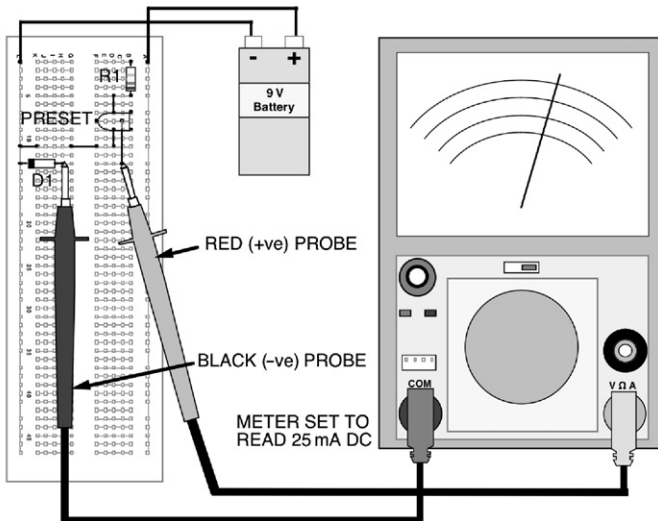

FIGURE 6.10 The same circuit, set up to measure the current through the diode.
- Now set up the breadboard layout of Figure 6.10, to measure the current through the diode – the breadboard layout is designed so that all you have to do is take out a short length of single-strand connecting wire and change the position of the